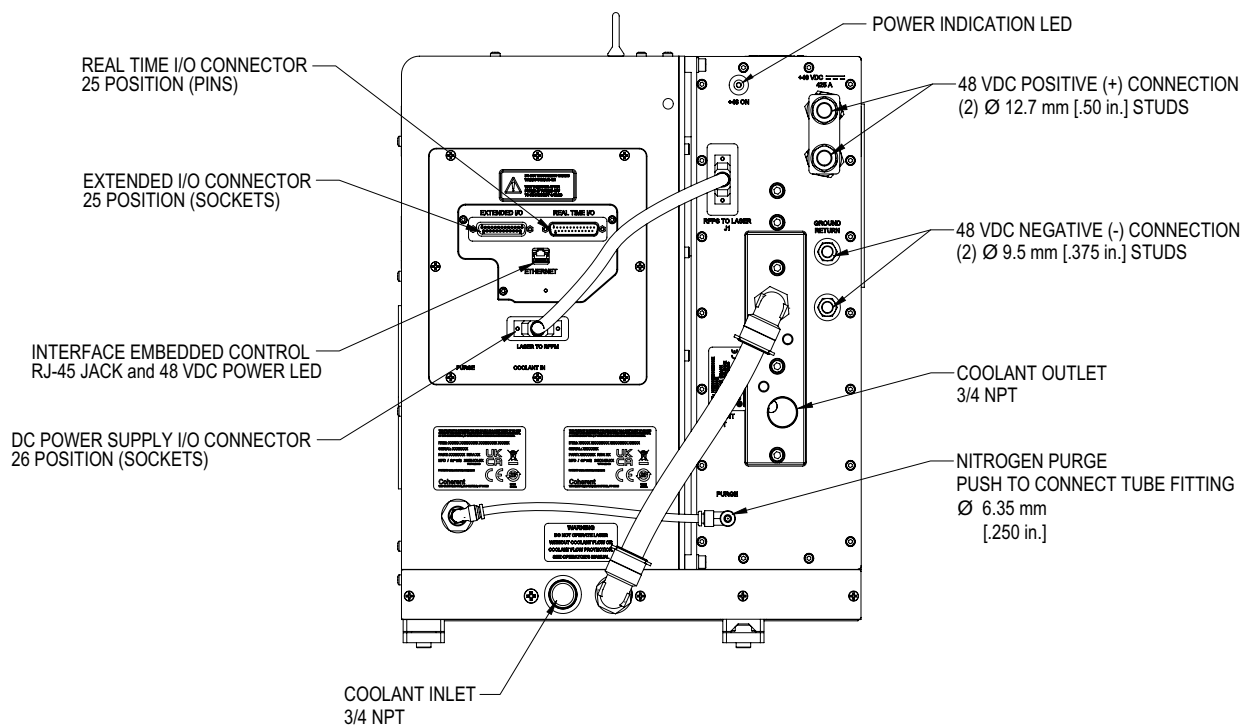

Figure 4-23. J-1000 Series Interface Connectors
Refer to Figure 4-23 and Table 4-6 for the location and description of the laser head indicators and connections.
1. Connect the tubing to the Tee as described in "Optics Purge Connection" (p. 80). Refer to Figure 4-23, "J-1000 Series Interface Connectors" (p. 78) for the purge gas line connection point.
Connect the fittings and coolant lines to the laser system, with the particle filter connected to the inlet coolant line near the laser head. Connection points are shown in Figure 4-23, "J-1000 Series Interface Connectors" (p. 78). Use Teflon tape on fittings. Observe the coolant flow direction shown in Figure 4-3, "Coolant Flow to Laser System" (p. 50).
The J-Series RF module DC Return is internally grounded directly to the chassis ground of the laser system. DC power supply cables from the DC power supply are to be connected directly to the marked connectors on the rear panels, see Figure 4-23, "J-1000 Series Interface Connectors" (p. 78).